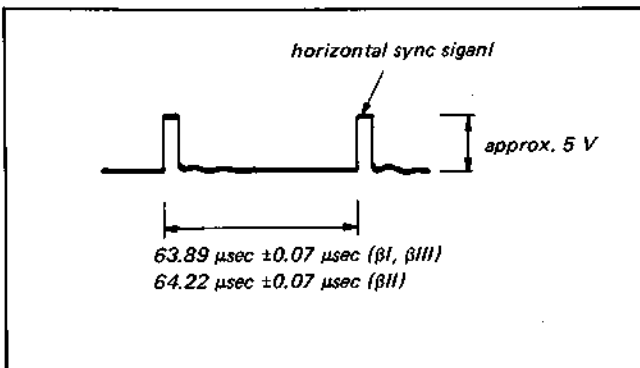

Fig. 5-11. Picture search drum free speed adjustment
- (1) Record and playback any signal in βI mode, and then in CUE mode adjust to $63.89 \mu\text{sec} \pm 0.07 \mu\text{sec}$ with SS-53 board RV802.
- (2) Playback in βII , and in CUE mode, adjust to $64.22 \mu\text{sec} \pm 0.07 \mu\text{sec}$ with SS-53 board RV801.
- (3) Playback in βIII , and in CUE mode, adjust to $63.89 \mu\text{sec} \pm 0.07 \mu\text{sec}$ with SS-53 board RV808. (See Fig. 5-11).